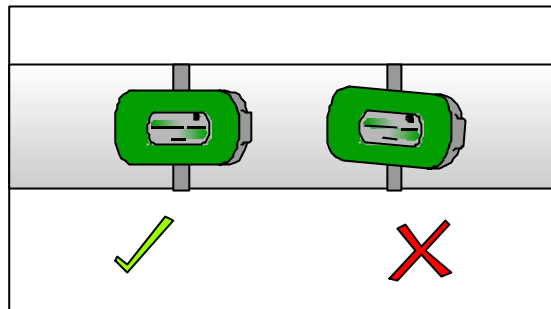

Figure 2. Correct alignment on pipe
- Thread one end of the banding through the grub screw attachment and fit the grub screw. Tighten the banding as tight as possible whilst checking that the sensor is aligned along the pipe axis, see figure 2.
The cable used should be a shielded multi-core with 4 to 9 cores (dependent upon the outputs used). The screen must be solidly connected to the housing using the “top hat” in the cable gland as shown in figure 2.